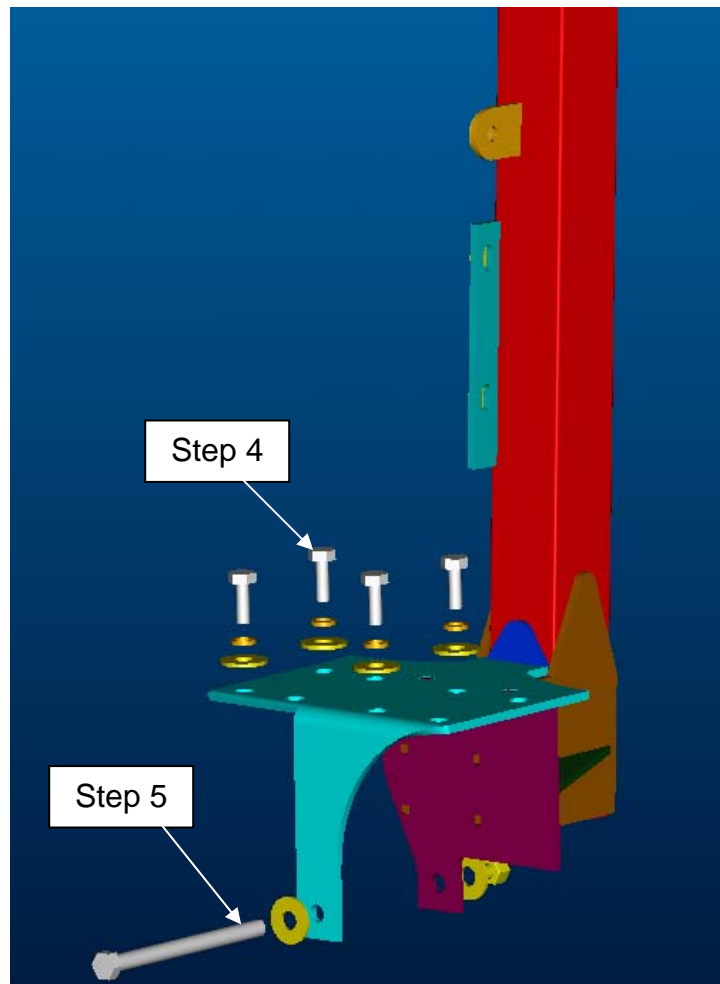

FIGURE 1
4. Install (4) hex head bolts M12 x 30mm long, (4) ½" lock washers and (4) ½" flat washers from top of each leg plate into tapped holes located on top of each side of the tractor axle housing. Leave all hardware loose until noted later in instructions. See Figure 1.
5. Install (1) ½-13unc x 6.50" long bolt, (2) ½" flat washers and (1) ½-13unc nylock nut, into the lower location of each leg. See Figure 1.